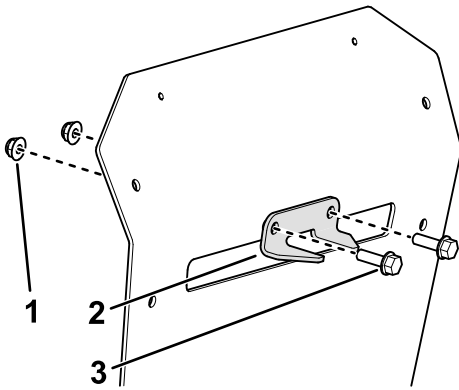

Figure 13
2. Install the stabilizer bracket to the rear guard using 2 bolts (5/16 x 1 inch) and 2 locknuts (5/16 inch) as shown in Figure 13.